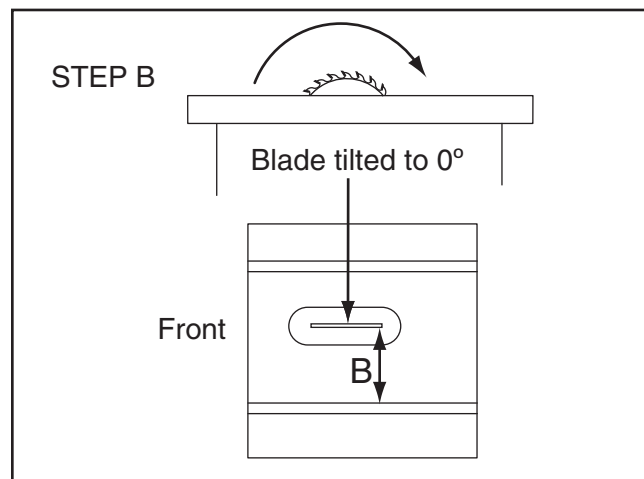

Figure 108. Measuring distance from miter slot to carbide tip on opposite side of table insert.
5. Slide adjustable square down to other end of table insert and compare distance from marked blade tip to end of adjustable square, as shown in **Figure 108**.